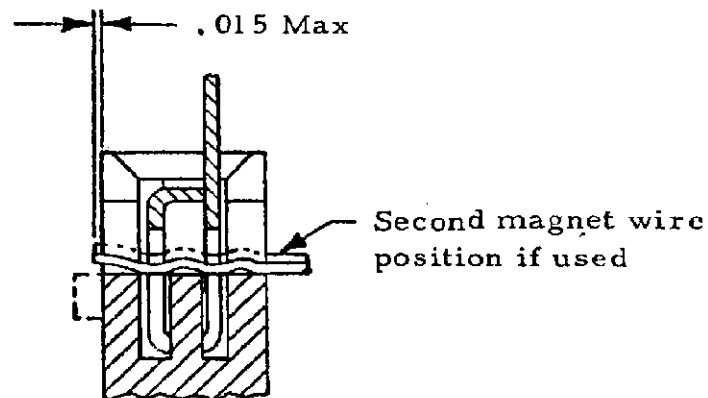

Figure 5
- A. Magnet wire shall contact the top of the cavity anvil as indicated in Figure 5 when terminals are inserted into cavity design option 1, (see Figure 2).